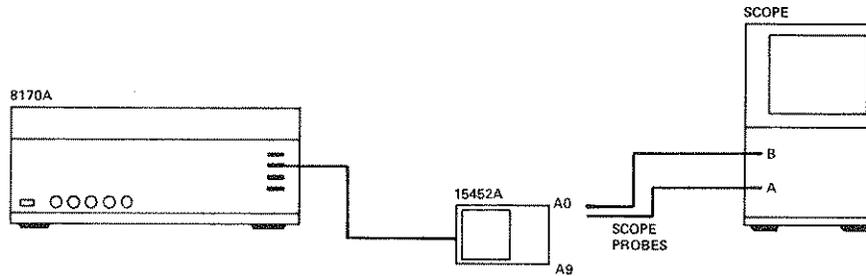

Figure 4-5. Test Setup for Address Output Function Test
1. Connect equipment as shown in Figure 4-5.